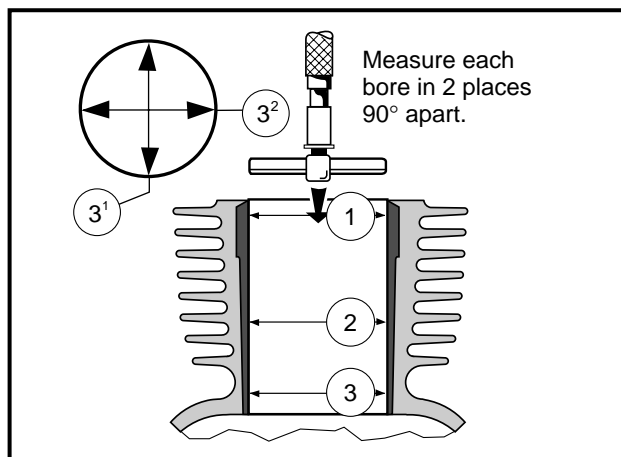

Figure 13-59 Measure Cylinder Bore
- Make the first measurement parallel with the crankshaft and the second at right angles to the crankshaft at three different locations in the bore. The first measurement location is 0.4 inch (10 mm) from the top of the cylinder. The second location is in the center or 2.4 inches (60 mm) from the top, and the third location is 0.3 inch (8 mm) from the bottom of the cylinder or bottom of ring travel. See locations 1, 2, and 3 (**Figure 13-59, Page 13-30**).